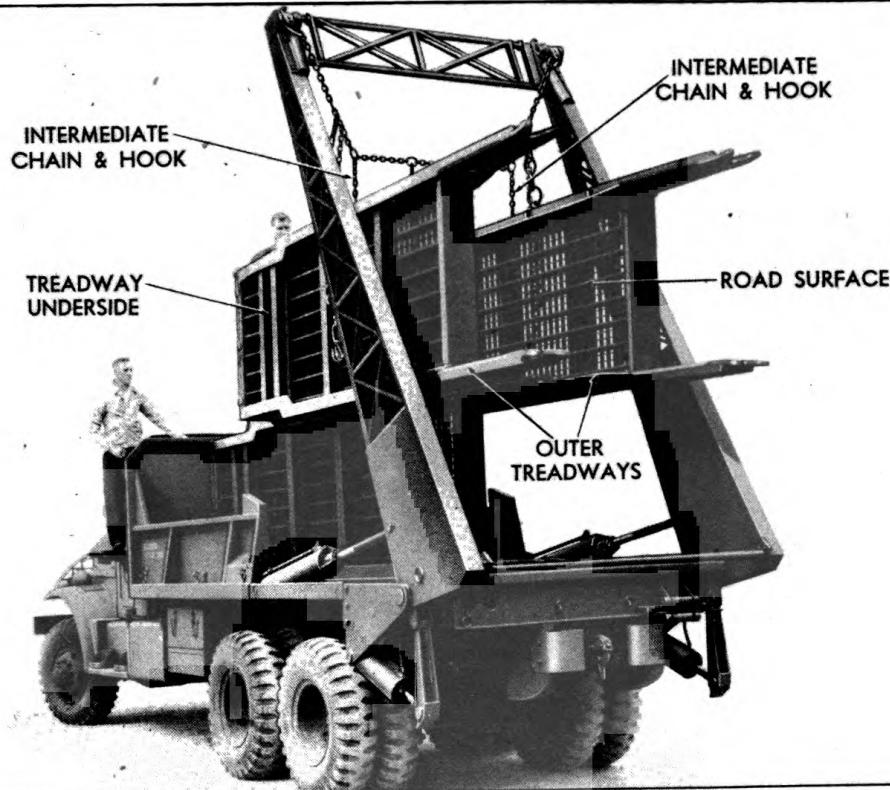
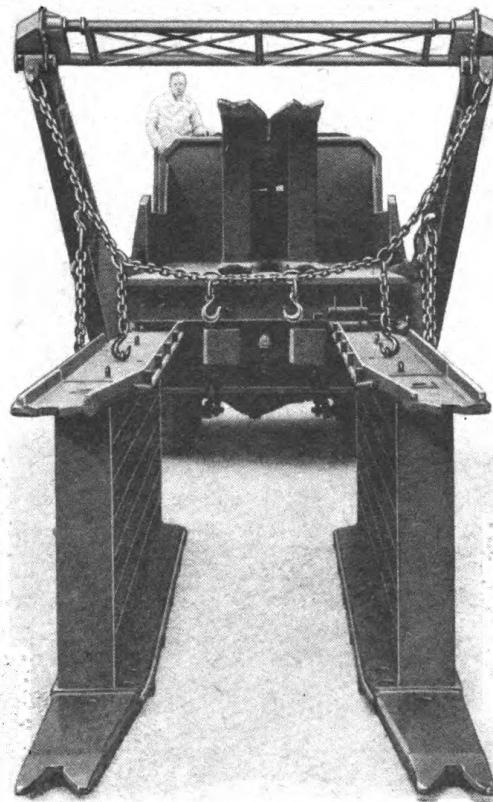
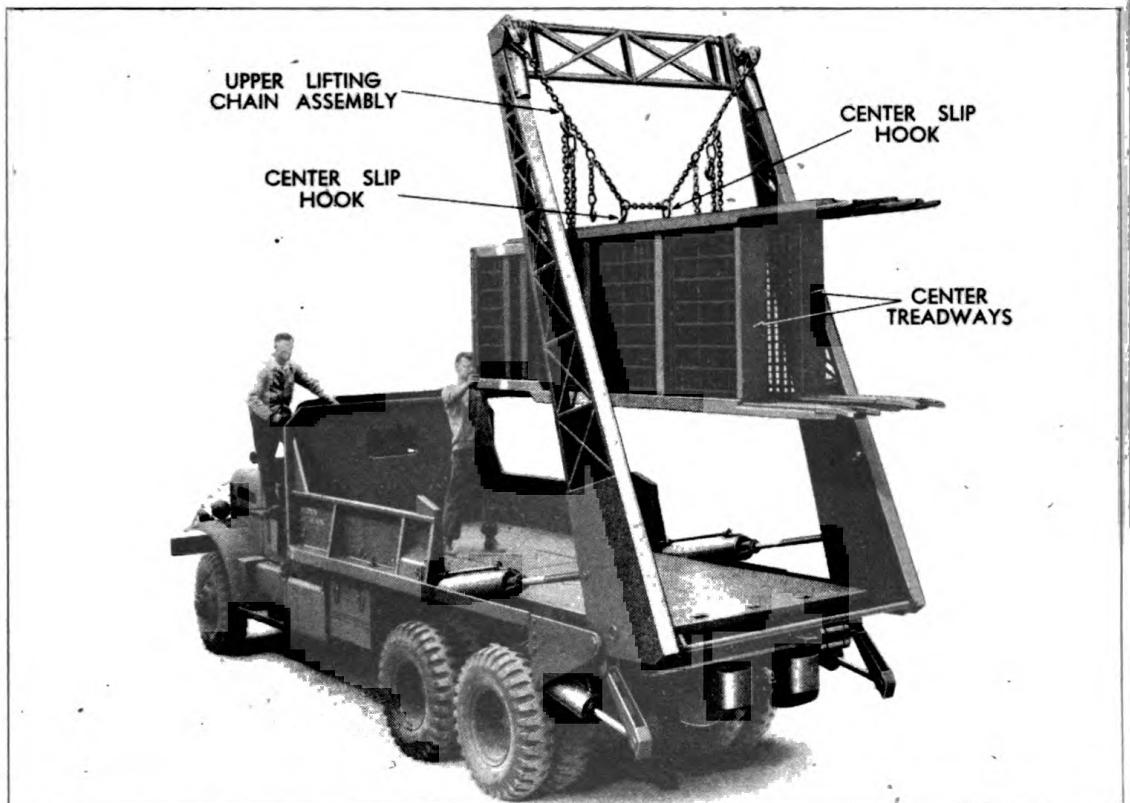

Figure 18. Unloading Two Outer Treadways First. Road Surfaces to Inside
Figure 19. Method of Attaching Slip Hooks to Treadway Eyes for Unloading
Figure 20. Removing Two Center Treadways with Center Slip Hooks
(1) The treadways should be loaded and unloaded two at a time. Unload the outer two treadways first, with the road surfaces toward each other as shown in Figure 18. Use the slip hooks on the intermediate length chain of the upper cross chain assembly. Insert a slip hook in the center eye located on the side surface of each treadway as shown in Figure 19.
(2) The inner two treadways are removed from the truck by using the two center slip hooks on the upper cross chain assembly. See Figure 20. The slip hooks are inserted in the center eye on the side of each treadway.
(2) The first two treadways to be loaded should be moved to the extreme center in two operations as follows. First, attach the intermediate slip hooks to the center eyes after the treadways are standing on edge. Raise the boom and they will swing to the center. Secondly, attach the center slip hooks to the eyes and raise the treadways into place on the truck, Figure 20.
(3) Handle the second pair of treadways as in step (1) above, but load them into the truck when the intermediate slip hooks are attached. See Figure 18. Also raise the treadways into place on the truck, Figure 20.